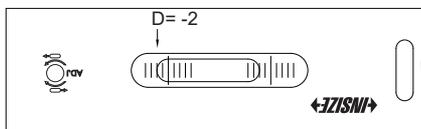

Fig.9
- d) After the bubble stops moving, read D on the scale (Fig.9).